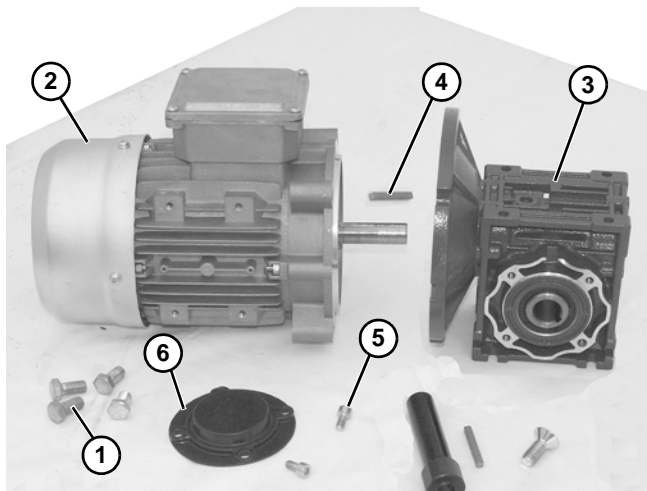

Figure 27
5. Remove four screws (**Figure 27, item 1**). Detach motor (**Figure 27, item 2**) from gear reducer (**Figure 27, item 3**). Retain motor output shaft key (**Figure 27, item 4**).
6. Remove two (2) screws (**Figure 27, item 5**) and detach output shaft cover (**Figure 27, item 6**).
7. Apply anti-seize to motor shaft before assembling to gearbox. With key (Figure 27, item 4) in keyway, slide motor (Figure 27, item 2) and gear reducer (Figure 27, item 3) together. Install screws (Figure 27, item 1) and tighten.
8. Install output shaft cover (Figure 27, item 6) and secure with two (2) screws (Figure 27, item 5).
4. Apply anti-seize to motor shaft before assembling to gearbox. With key (Figure 27, item 4) in keyway, slide motor (Figure 27, item 2) and gear reducer (Figure 27, item 3) together. Install screws (Figure 27, item 1) and tighten.
5. Install output shaft cover (Figure 27, item 6) and secure with two (2) screws (Figure 27, item 5).